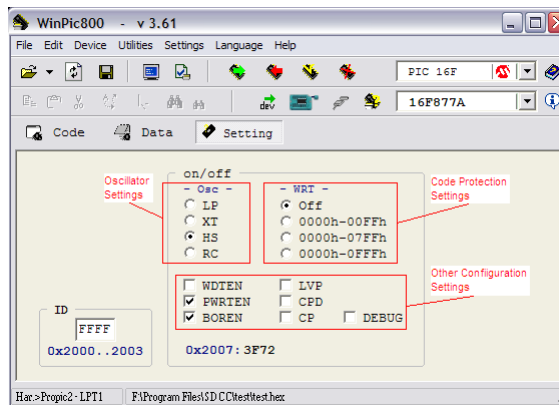

Figure 12: Configuration settings
7. ²Adjust the oscillator settings. XT for 0.1 – 4MHz and HS for 4 – 20MHz (Figure 12).
8. ²Adjust the code protection settings. *If a code protected microcontroller is read, the data is shown as all zeros and if the configuration is reset to be without code protection, the whole program memory is erased.* (Figure 12).
9. ²Adjust other configuration settings. (Figure 12).